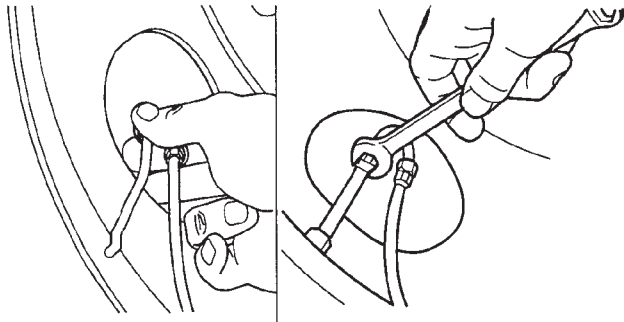

Figure 23: Attaching tire hoses to tire valve stem
- Tighten** the tire hose/valve stem connection finger tight (Figure 23).
- Using a 7/16 inch wrench, **tighten** the tire hose / valve stem connection an additional one-half turn (Figure 23). **DO NOT overtighten this connection.**